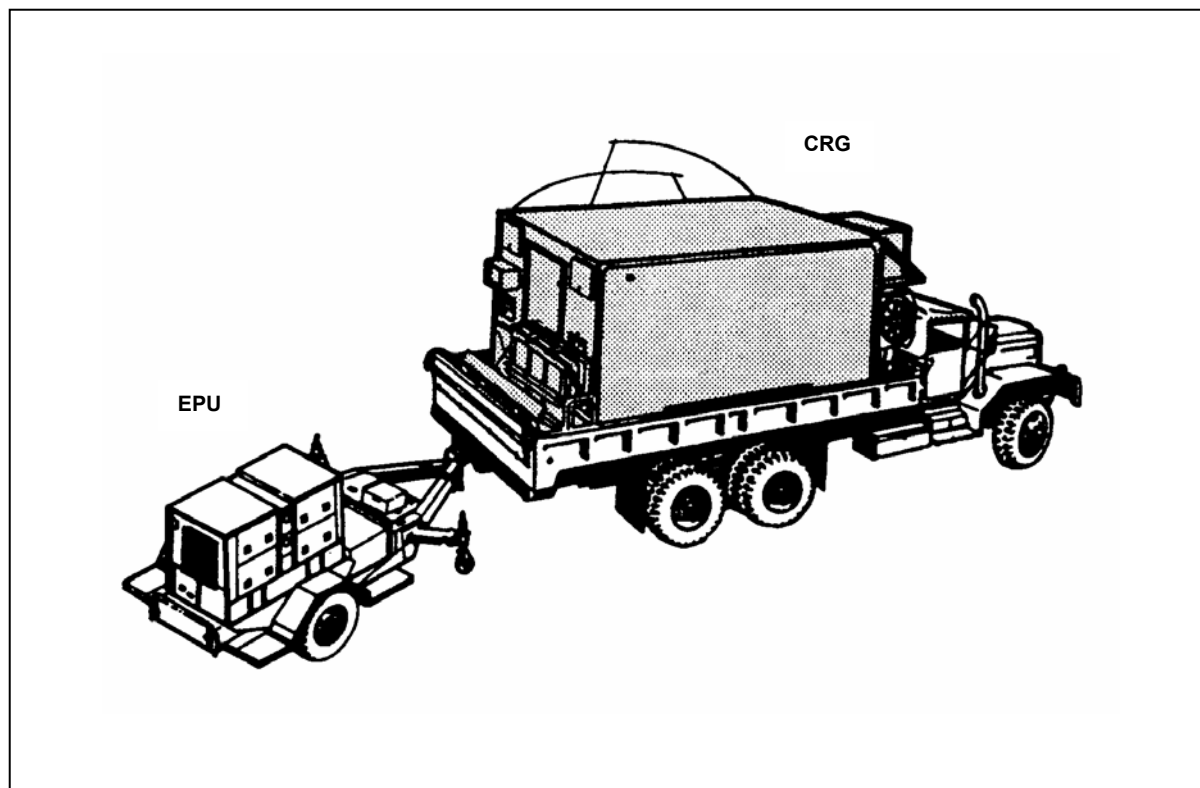

Figure 2-12. March order CRG with EPU
ILLUSTRATIONS: Figures 2-12 through 2-13.
(1) Using a diagram, Figures 2-12 and 2-13, a sand table, or a simple sketch in the dirt, show the crew members how the communications relay section equipment should be marched ordered.
(2) Tell each crew member what their duties are in the drill.
(3) Read the performance measures of the drill to the crew members.
(4) Have each crew member explain their performance measures to ensure that they understand them.